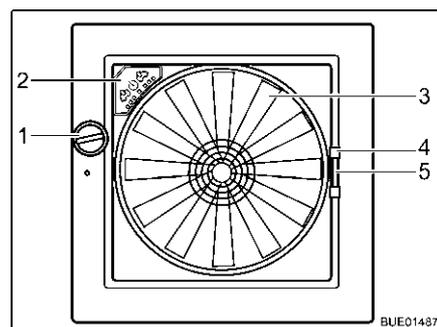

Fig. 109 Skylight Omni-Vent
- Opening:** ■ Turn the knob (Fig. 109,1) until the desired opening angle is reached.
- Closing:** ■ Turn the knob (Fig. 109,1) until the skylight is fully closed.
- Closing:** ■ Using the handle (Fig. 109,4) pull the insect screen across to the other side of the frame.
- Press together the handle (Fig. 109,5) of the shade.
Fan If the skylight is open, the interior can be ventilated with the 6-speed fan (Fig. 109,3). The fan is operated via the operating panel (Fig. 109,2).